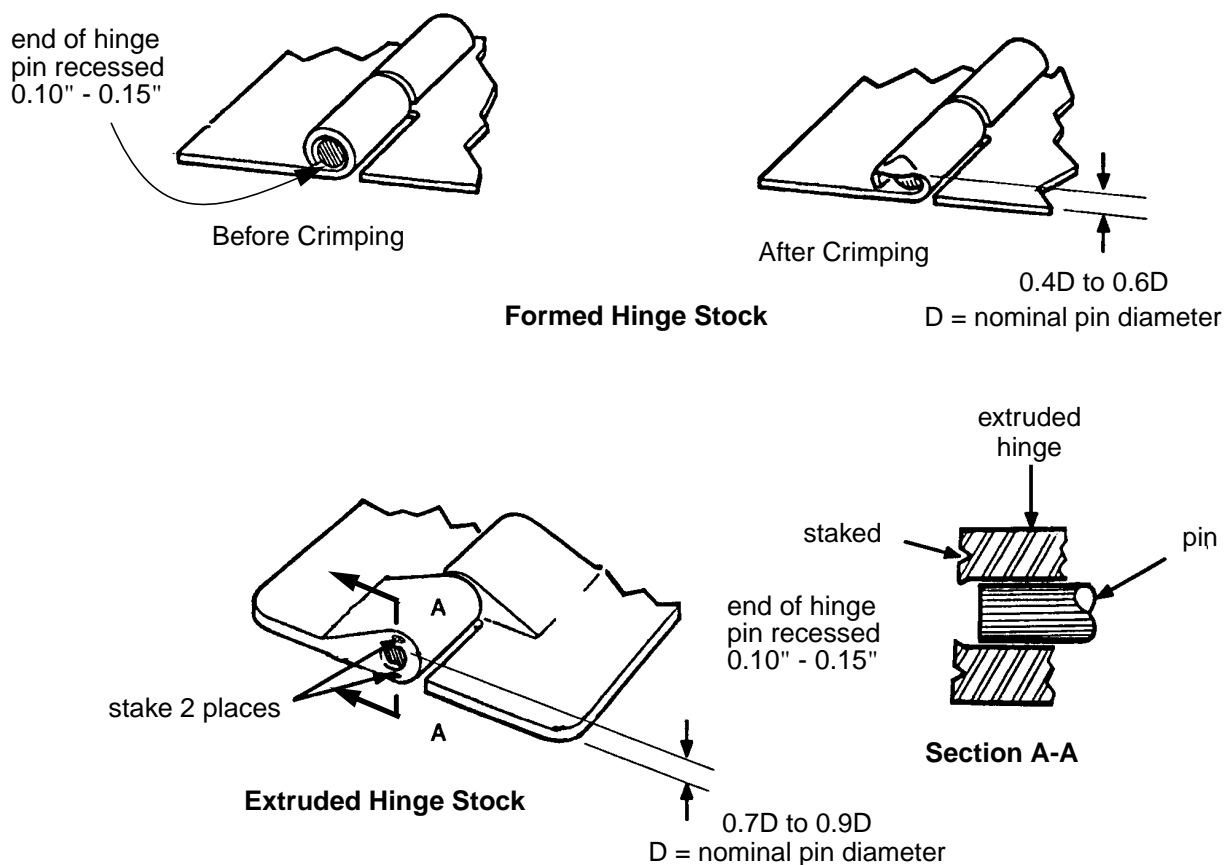

Figure 3 - Crimping/Staking of Hinge Stock
5.8.1 Except when secured with a mechanical hinge pin retainer, secure hinge pins in formed or extruded hinge stock by crimping or staking, as applicable, as follows (see Figure 3). As this technique involves a recessed hinge pin and crimping or staking of the hinge stock, refer to Liaison Engineering for disposition if the width of the last hinge loop is less than 0.250".